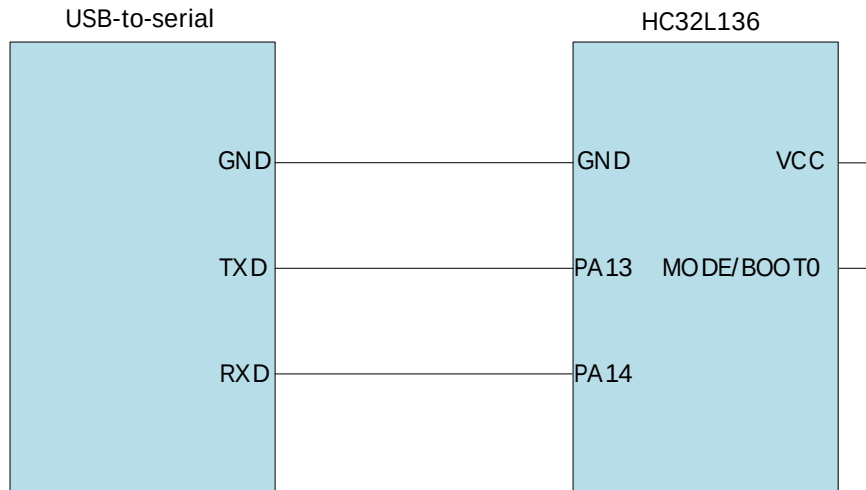

Figure 2-1 Hardware connection
1. Connect the serial port of the USB-to-serial cable to the serial programming pin of the target MCU. Taking the HC32L136 series as an example, the connection method is shown in Figure 2-1. Pull up the target MCU MODE pin, and then power on the target MCU to enter the serial programming mode.